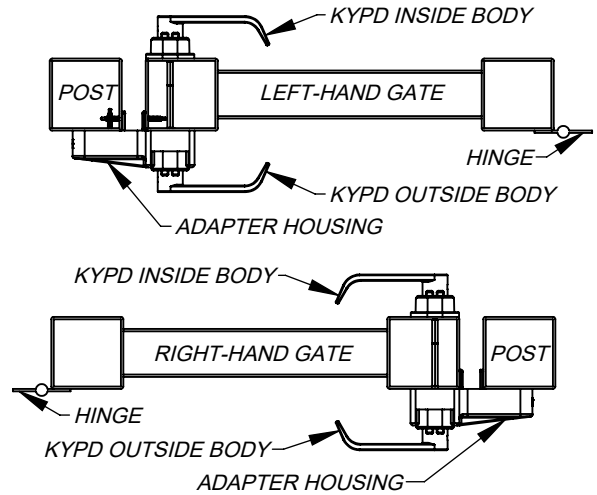
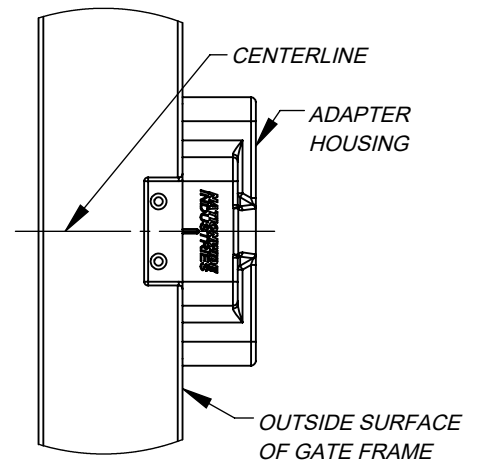
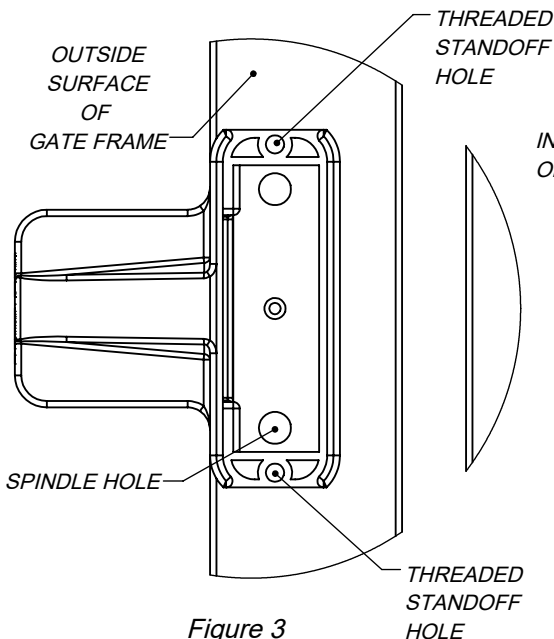

Figure 1
Figure 2
Figure 3
1) Determine whether the gate is a left-hand gate or right-hand gate (Figure 1). Hold the Adapter Housing to the outside surface of the gate frame at the desired height, and mark the centerline of the Adapter Housing (Figure 2). Mark the top and bottom holes for the threaded standoffs, as well as the spindle hole near the lower threaded standoff hole (Figure 3).